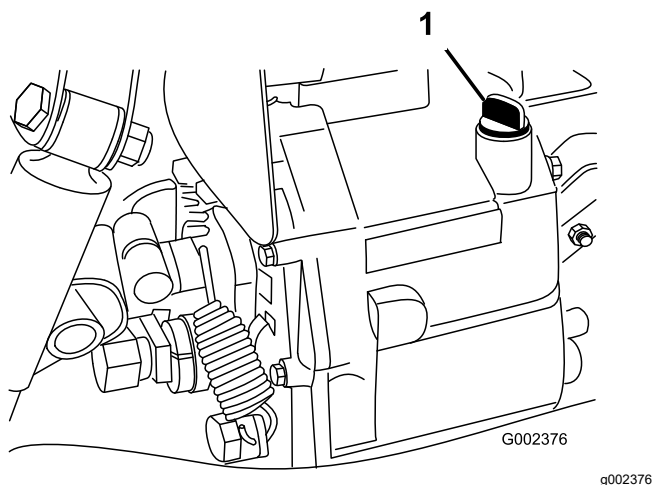

Figure 20
2. Clean the area around the dipstick (Figure 20).